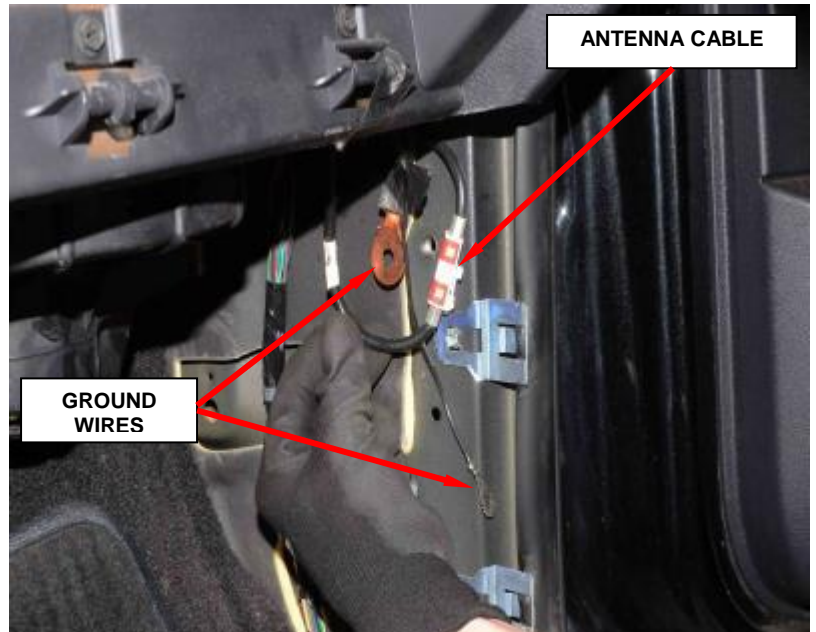

Figure 113 – Ground Bolt and Nut
26. Remove the bolt and nut and disconnect the grounds on the right A-pillar (Figure 113).
27. Disconnect the antenna cable (Figure 113).